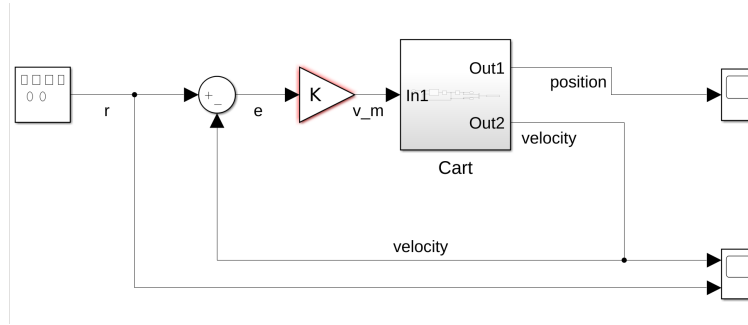

Figure 7: Schematic representation of the Matlab Simulink model
2. Set up your Simulink model as in Figure 7. This time, the input voltage to the cart is $v_m(t) = K(r(t) - v(t)) = Ke(t)$.